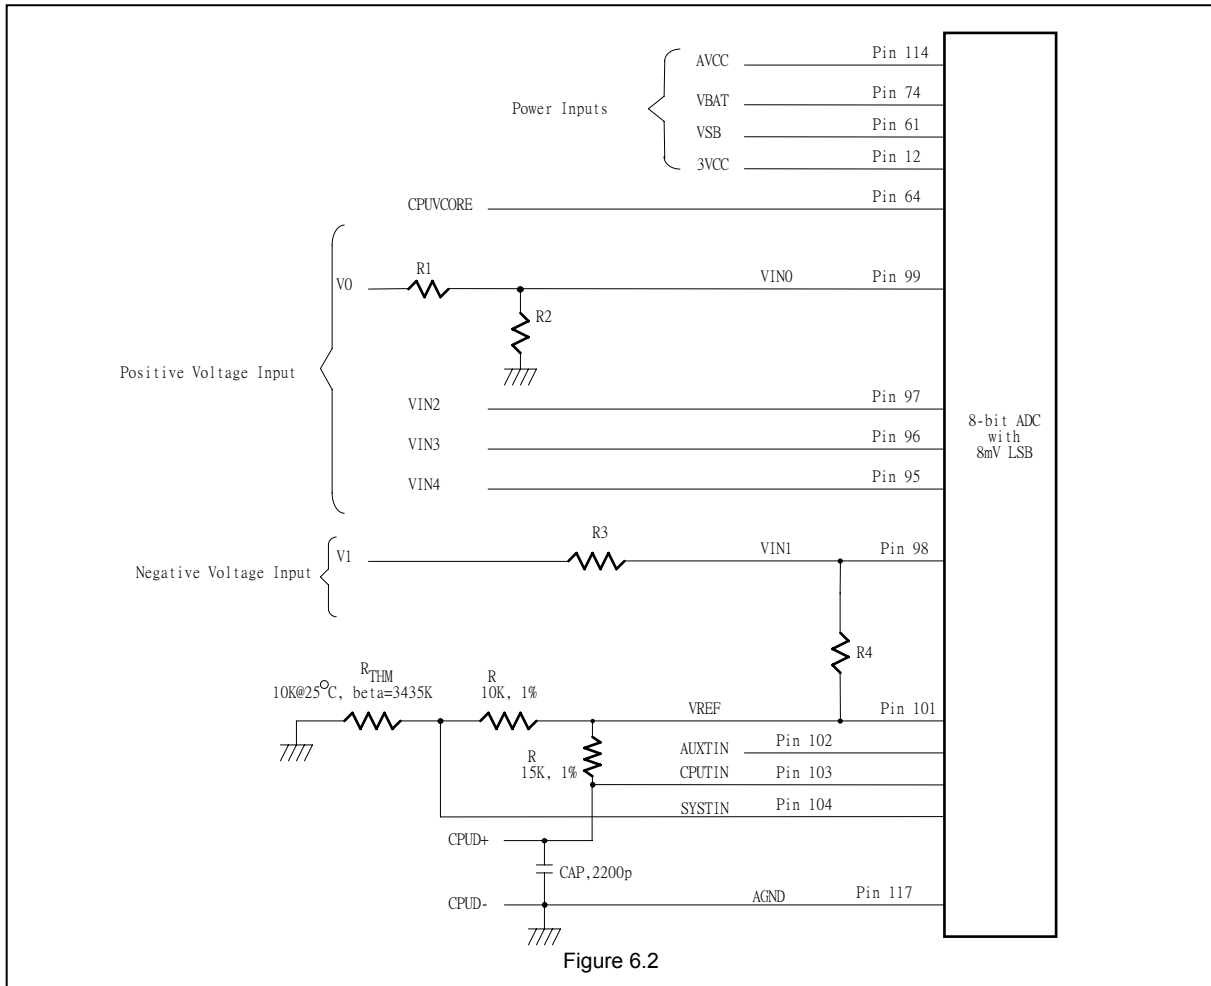

Figure 6.2
The maximum input voltage of the analog pin is 2.048V because the 8-bit ADC has a 8mV LSB. Really, the application of the PC monitoring would most often be connected to power suppliers. The CPU Vcore voltage, battery (pin 74), 3VSB (pin 61), 3VCC (pin 12), AVCC (pin 114) voltage can directly connected to these analog inputs. The +12V voltage inputs should be reduced a factor with external resistors so as to obtain the input range. As Figure 6.2 shows.
The W83627EHF/EHG can connect three thermistors to measure three different environment temperature. The specification of thermistor should be considered to (1) β value is 3435K, (2) resistor value is 10K ohms at 25°C. In the Figure 6.2, the thermistor is connected by a serial resistor with 10K Ohms, then connect to VREF (pin 101).